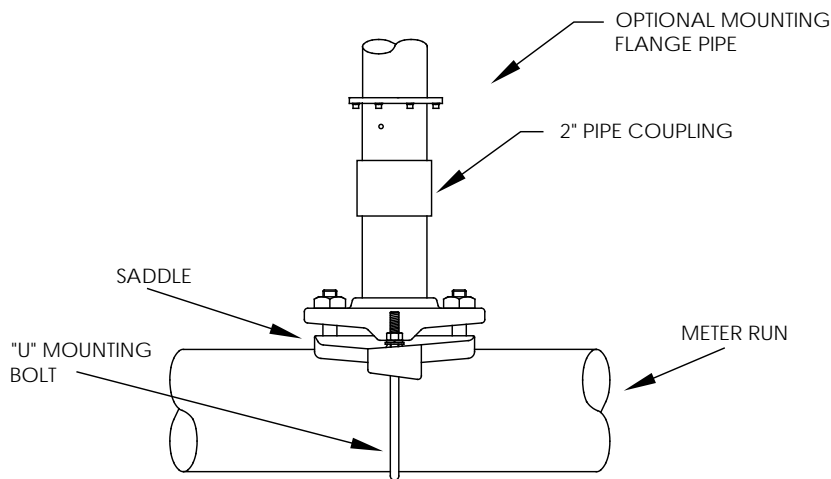

Figure 3-19 Typical Pipe Saddle Installation
- 2) Temporarily attach saddle on the meter run pipe using U-bolt and associated hardware (see Figure 3-19).